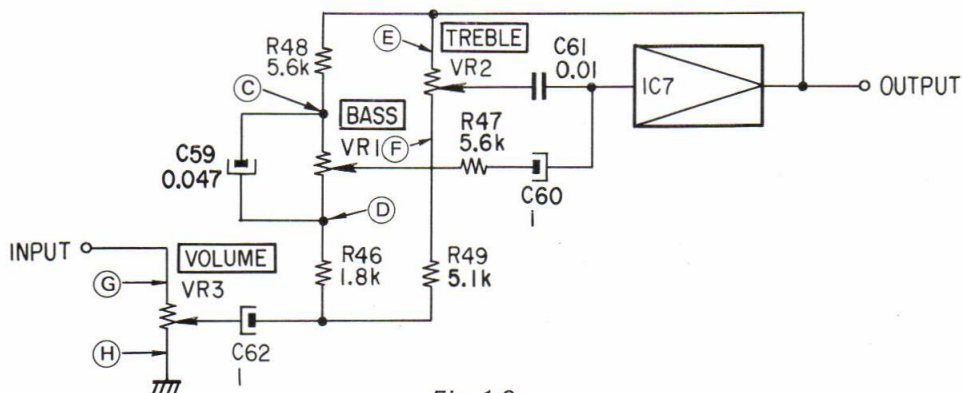

Fig. 1-3
Due to the effect of C59, the impedance across (C) and (D) in Fig. 1-3 is low at high frequencies and high at low frequencies. Therefore, the low frequencies feedback signals are emphasized at (C) but de-emphasized at (D). Consequently, if the VR1 slider is shifted in the direction of (C), the amount of low frequency feedback will increase, thus reducing the amount of bass in the sound. If, however, the slider is shifted in the direction of (D), the amount of feedback is reduced and the VR3 output level is increased. So the low frequencies in the IC7 output are emphasized.
High frequencies are better able to pass through C61 than low frequencies. So the VR2 (TREBLE) action controls the high frequencies in the IC7 input signals. When the VR2 slider in Fig. 1-3 is shifted in the direction of (E), the amount of high frequency negative feedback is increased while the signal level of the VR3 (VOLUME) output is reduced. So the IC7 output will be low in high frequency signals. But when the slider is shifted in the direction of (D), the amount of negative feedback of high frequency signals is reduced, and the VR3 output signal is increased, resulting in an emphasis of the high frequencies in the IC7 output.